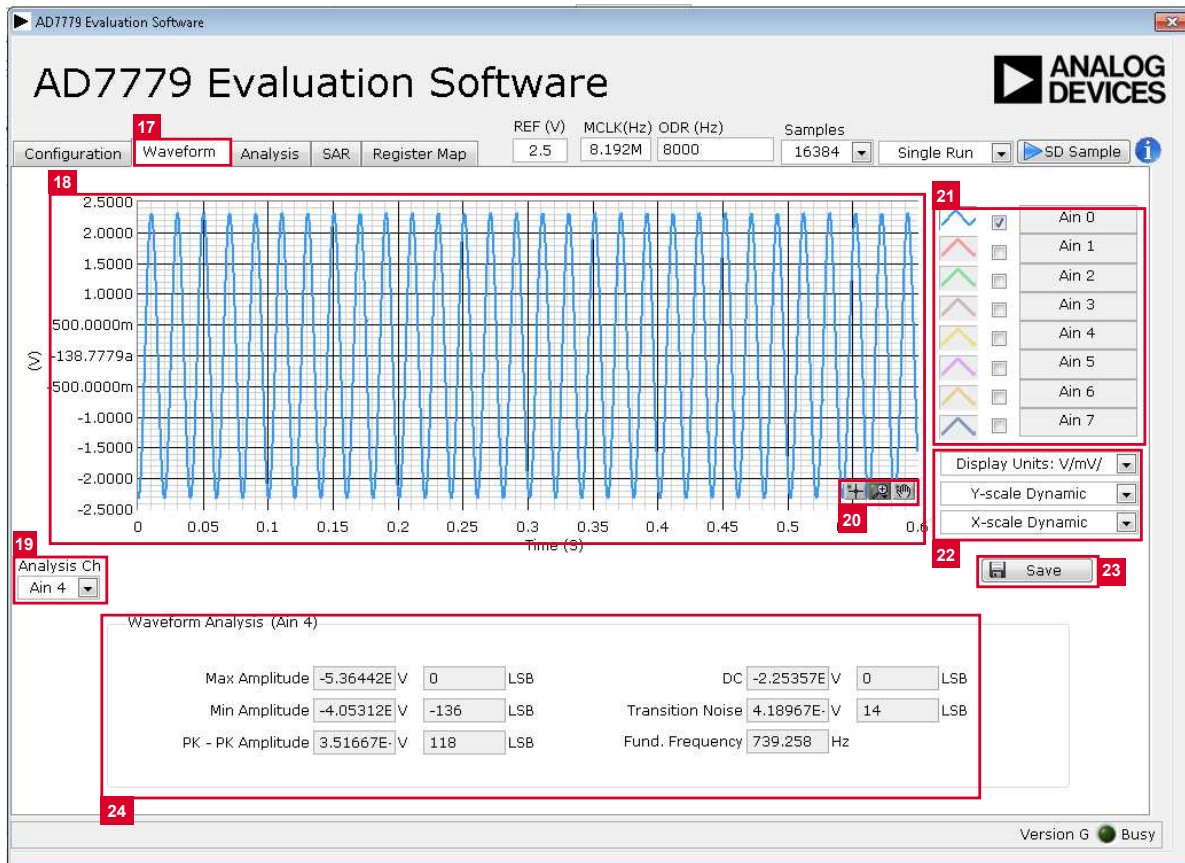

Figure 8. **Waveform** Tab of the **AD7779** Evaluation Software
1. From the **Start** menu, click **Programs, Analog Devices**, then **EVAL-AD7779FMCZ**. The main window of the software then displays (see Figure 8).